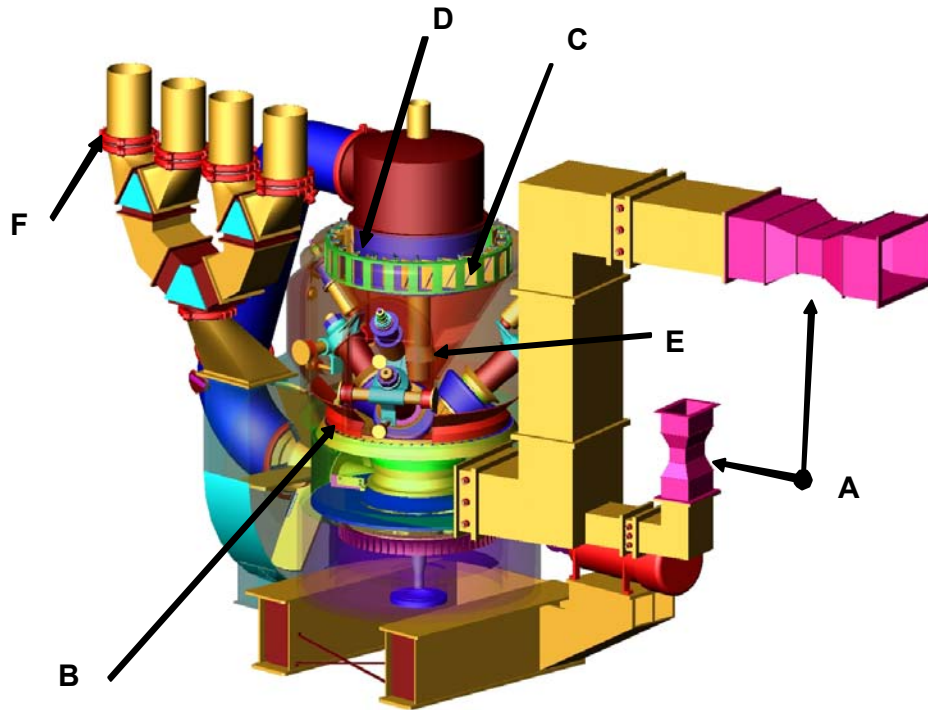

Figure No. 1
2. **Pulverizer throats that are too wide** is an extremely common problem. So, to minimize coal rejects, it appears simple to correct. Just increase the primary airflow right? **NO** not right, or at least not optimum. The Best “heat rate” operation and Best low No_x in furnace performance is produced by careful and precise measurement and control of the primary airflow. The primary airflow needs to be measured and controlled for the optimum airflow ramp. The Storm standard for pulverizer throat area has been established and proven. Complimenting the proper throat area are the other recommendations as shown in Figure No. 1. Getting favorable and good RESULTS takes the “**Synergy**” of all the Storm recommendations (The Comprehensive Approach).